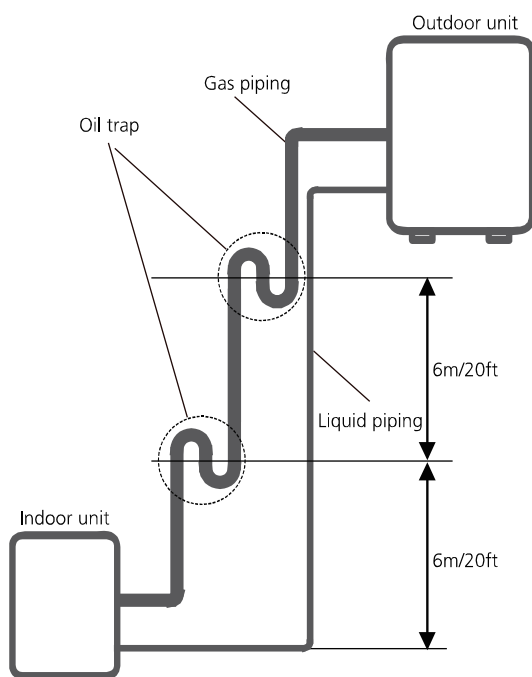

Fig. 7.2
-It is recommended that vertical suction risers not be upsized. Proper oil return to the compressor should be maintained with suction gas velocity. If velocities drop below 7.62m/s (1500fpm (feet per minute)), oil return will be decreased. An oil trap should be installed every 6m(20ft) of vertical suction line riser. (See Fig. 7.2)